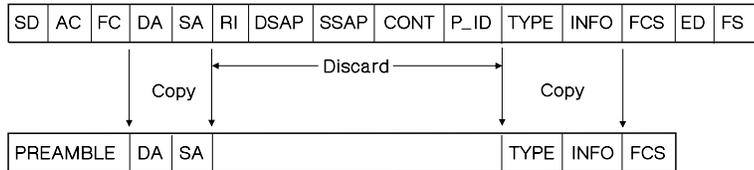

Figure E-2. Token-Ring Version 2.0-to-Ethernet Frame Conversion
The conversion from a token-ring frame to an Ethernet Version 2 frame for TCP/IP operation is represented in Figure E-2. In this conversion, the routing information (RI) and the destination service access point (DSAP), source service access point (SSAP), control (CONT), and protocol ID contained in the subnetwork access protocol (SNAP) header are extracted from the token-ring frame and discarded. The destination address (DA), source address (SA), and information field (TYPE and INFO) are copied into an Ethernet frame and sent to the Ethernet LAN.